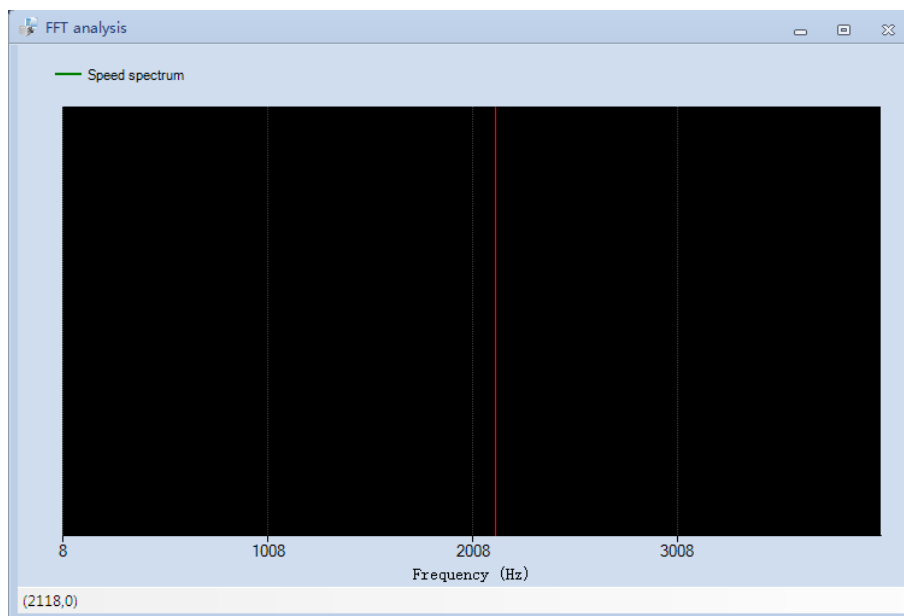

Fig. 3-25 Motor speed spectrum
- 2) Set “Filter mode” to “1 valid” “2 valid” or “Resonance frequency test mode”. With external control, use “Trial run” function to make the motor run. Click [Start] button on the toolbar of “FFT analysis” window to display motor speed spectrum, as shown in Fig. 3-25.